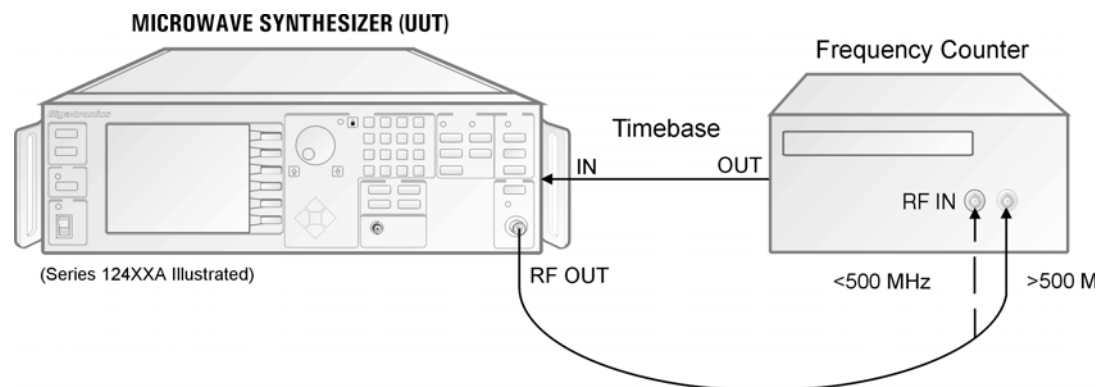

Figure 2-1: Frequency Range, Resolution & Accuracy
1. Connect the equipment as shown in Figure 2-1. Connect the 12000A RF Output to the 10 to 500 MHz counter input using the coaxial cable and the SMA to BNC adapter. Allow the equipment to warm up for at least 30 minutes. Because the 12000A and the counter use the same timebase, timebase errors are eliminated. The 12000A will automatically switch to the external reference when it is connected.